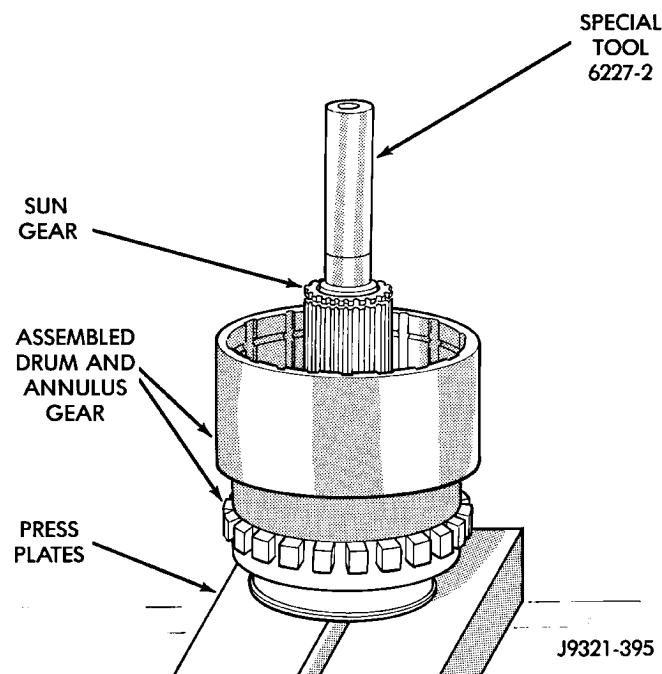

Fig. 223 Alignment Tool Installation
(15) Mount assembled output shaft, annulus gear, and clutch drum in shop press. Direct clutch spring, hub and clutch pack are easier to install with assembly mounted in press.
(16) Align splines in hubs of planetary gear and overrunning clutch with Alignment tool 6227-2 (Fig. 223). Insert tool through sun gear and into splines of both hubs. Be sure alignment tool is fully seated before proceeding.